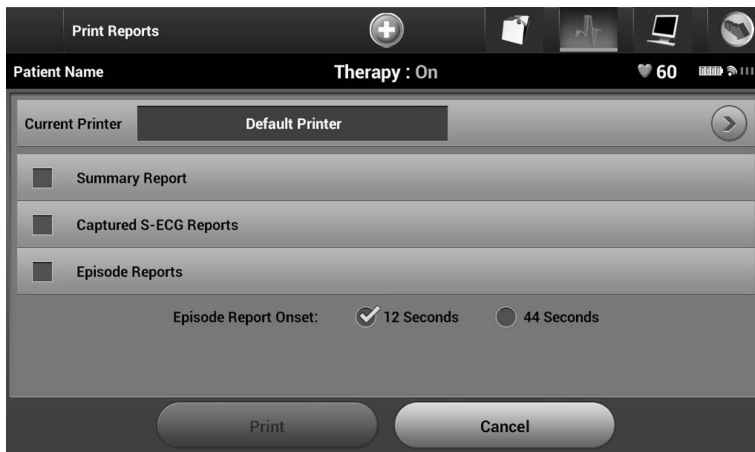

Figure 37: *Print Reports screen*
2. Select the Print Reports button to display the Print Reports screen (Figure 37).
1. Select the Captured S-ECG Report option from the Print Reports screen (Figure 37).
1. Select the Episodes Report option on the Print Reports screen (Figure 37).